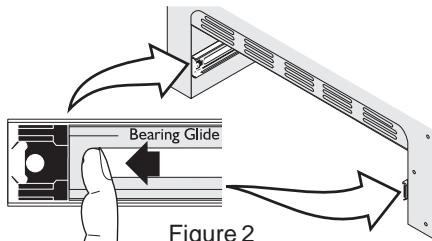

Figure 2
2. Remove 2 screws located on the inside of the oven door liner (See **A** Fig. 2)
3. Insert the 2 screws into the door hinge holes located on the side of the hinge arm, one into each hinge (See **B** Fig. 2).
5. Reinstall the 2 screws into the door liner (See **C** Fig. 2).
2. **Pull the bearing glides to the front** of the chassis glide (See Figure 2).